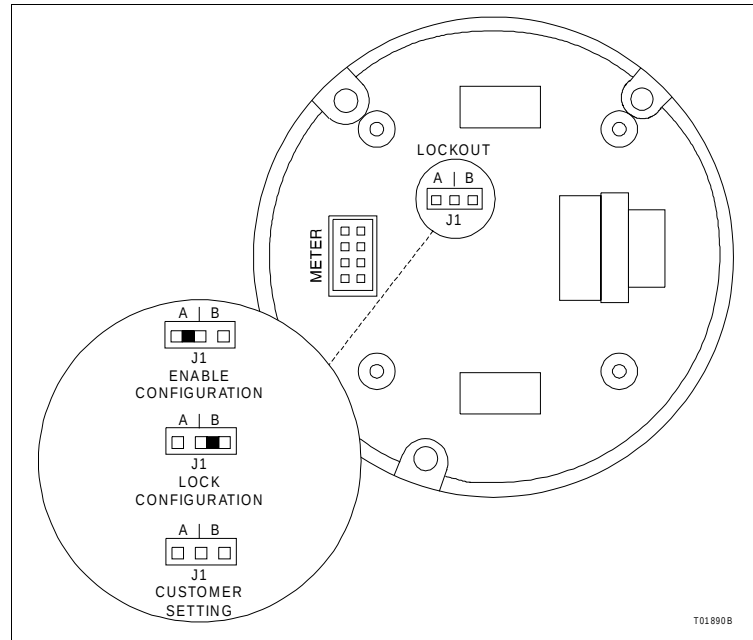

Figure 3-13. Lockout Jumper
The Type PTHD pressure transmitter has a lockout feature. When engaged, configuration and calibration information is unalterable. This has no effect on the monitoring of transmitter functions. Refer to Figure 3-13 for the location of the jumper on the amplifier assembly.
6. Use needle nose pliers to change the jumper position. LOCKOUT B locks the configuration and LOCKOUT A enables configuration (Fig. 3-13).